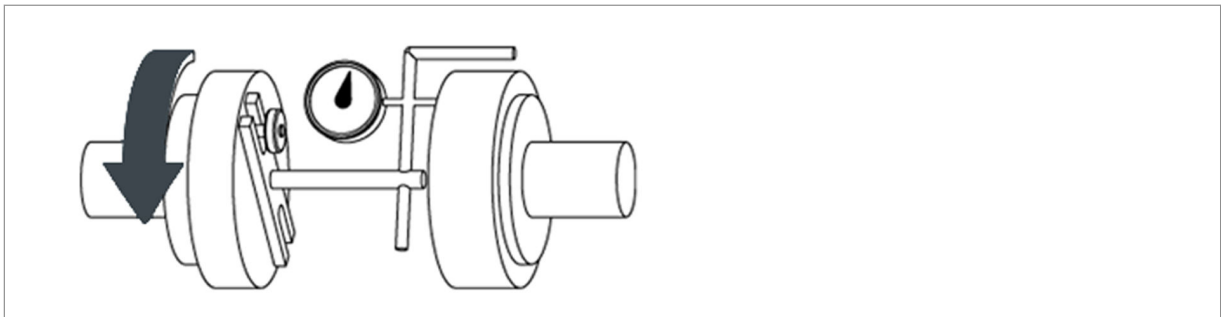

Fig. 21: Checking the angular offset
- Carry out measurement as shown (Fig. 21).